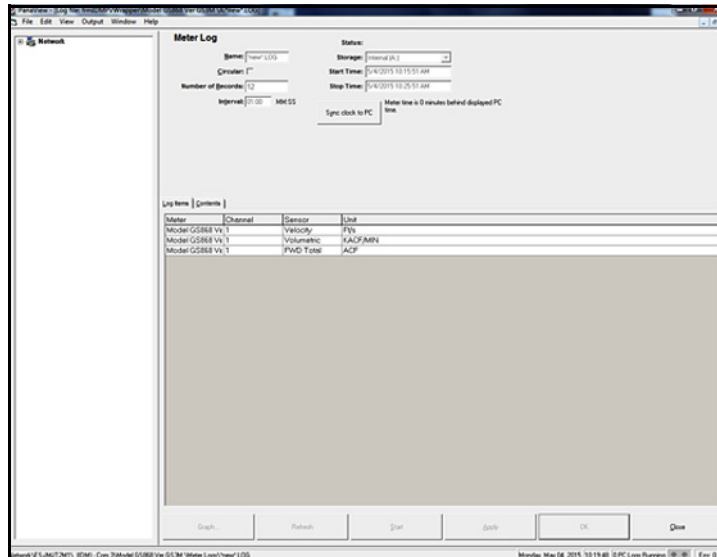

Figure 77: The Meter Log Window
3. At the “Meter Log” window shown in *Figure 77* below, the following log specifications may be entered:
- Click "Log Items" tab (see Figure 77 on page 64) for a list of the parameters specified for logging.
- Click "Contents" tab (see Figure 77 on page 64) for a list of all the data points logged to date for the parameter currently highlighted on the "Log Items" tab.